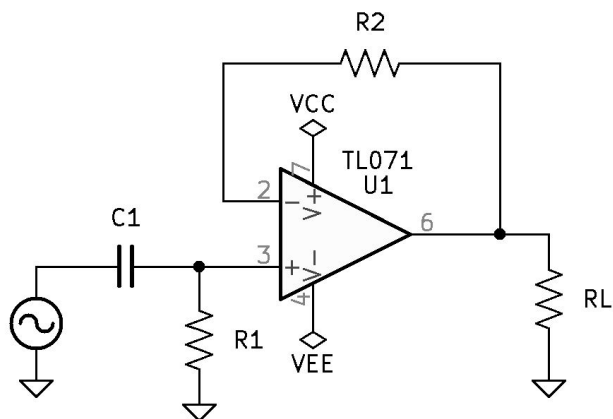

Figure 8.4: High-Pass First Order Active Filtering Circuit.
1. See Figure 8.4 *High-Pass First-Order Active Filtering Circuit* on page 83.